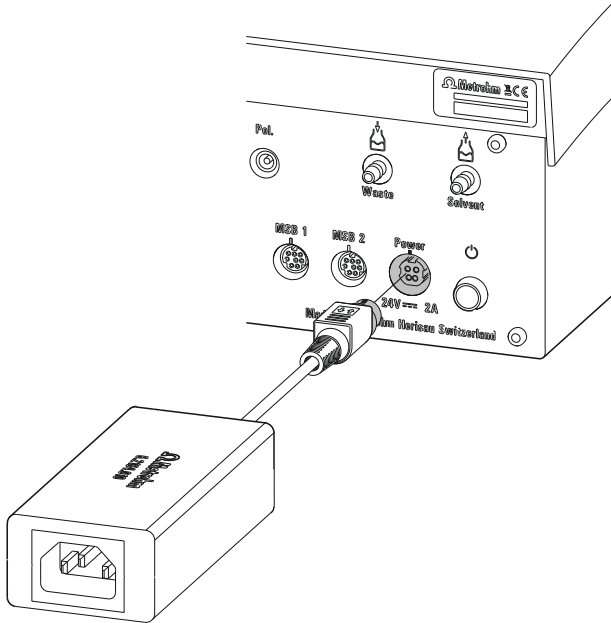

Figure 3 Connecting the power supply unit
- 1 Connect the plug of the external power supply unit with the mains connection of the Ti-Touch (see Figure 3, page 11).